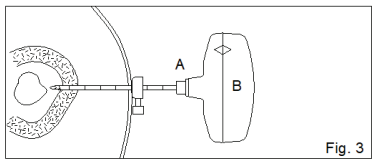

Fig. 3
FIG. 3 With careful but firm turns, rotate the Cutting Cannula and Stylet (A+B) clockwise until the depth gauge reaches the skin and/or desired position is obtained. Firmly hold the Cutting Cannula (A) and remove the Stylet (B).